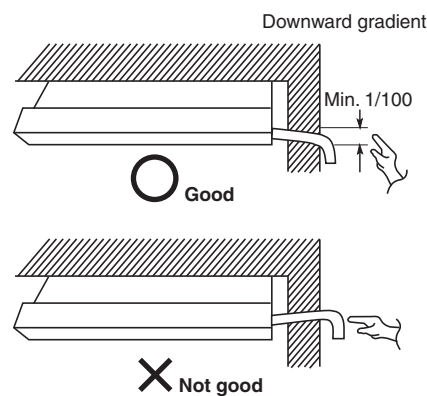

Fig. 3-147
- (1) Drain hose connection
- (2) Installing the drain hose
- Connect the drain piping so that it slopes downward from the unit to the outside. (Fig. 3-147)